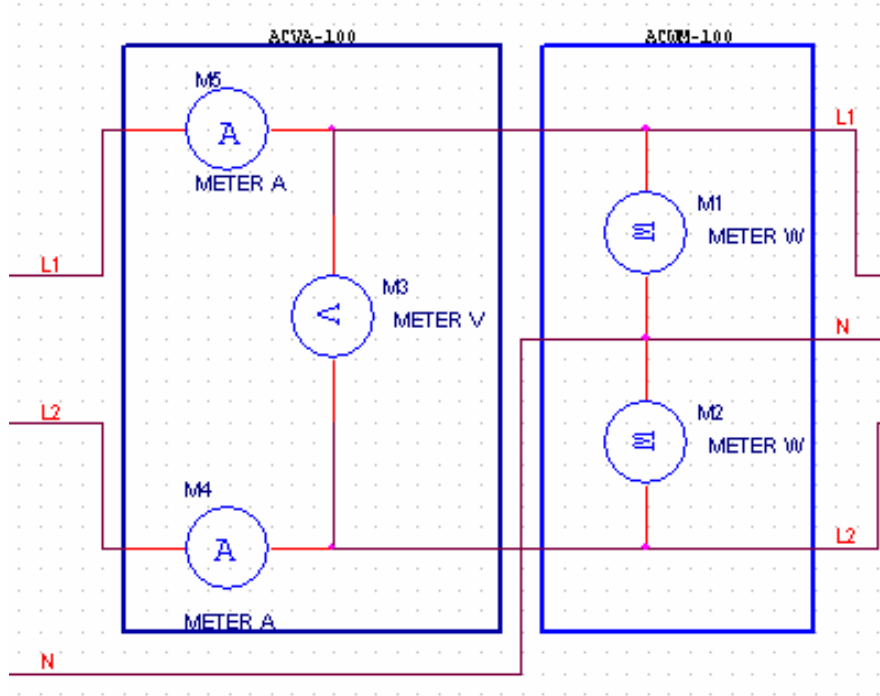

Figure 3 Service Watt Meter
- b. **Metering:** The service meter was replicated by using a Hampden AC-Watt Meter ACWM-100 and an AC Volt/Amp Meter ACVA-100. Figure 3 is the schematic diagram for this circuit. All other measurements are made with an Agilent 34401 Digital Multimeter.